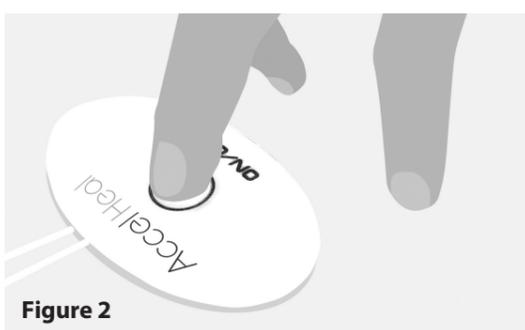

Figure 2
3. Press and hold the start/pause button for two seconds to activate the device. Figure 2.